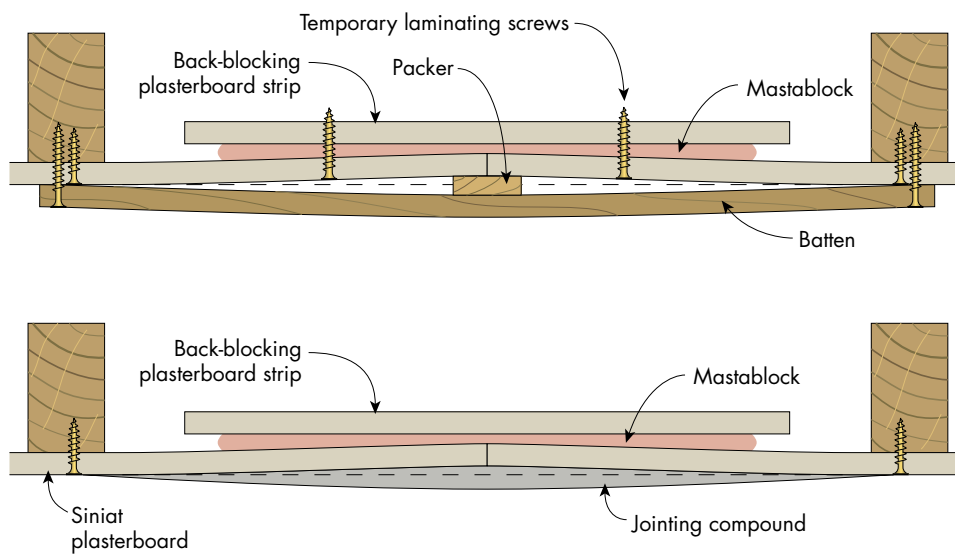

FIGURE 54 Creating a Recess on a Wall Butt Joint using a Temporary Packer
- Wall butt joints need support for the back-blocking strips as shown in Figure 54.